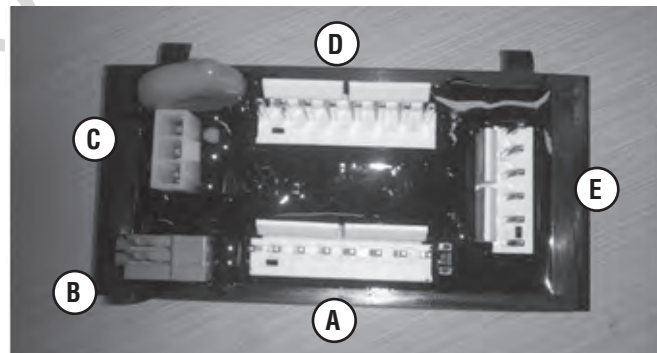

Figure 5
Locate the supplied interface board in the kit. Before proceeding, review and understand the interface board connector assignments below (Figure 5).
2. Insert one end of each wire into the N.O. and COM terminals at the 10-pin connector plug or terminal block. Insert the other end of each wire into the interface board by pressing the tabs on the relay connector (B, Figure 5). Polarity does not matter.
3. Route the other end of the harness to the interface board and connect it to the 240V splitter harness connector (C, Figure 5).
4. Route the other end of the harness to the interface board and connect it to the 240V splitter harness connector (C, Figure 5).
2. Connect the pass-through harness to the control panel, then route it to the interface board and connect it to the pass-through harness connector (D, Figure 5).
2. Connect the cellular unit harness to the cellular unit, then route it to the interface board and connect it to the cellular unit harness connector (E, Figure 5).
3. Route the generator wire harness on the control board to the interface board and connect it to the generator harness connector (A, Figure 5).